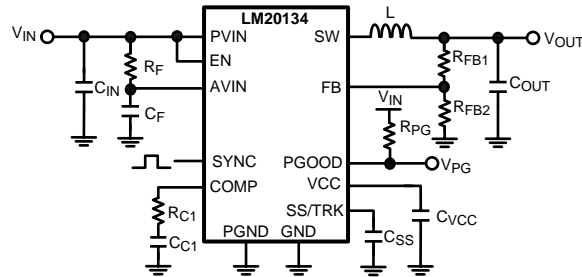

Figure 28. Typical Application Circuit
The LM20134 switching regulator features all of the functions necessary to implement an efficient low voltage buck regulator using a minimum number of external components. This easy to use regulator features two integrated switches and is capable of supplying up to 4A of continuous output current. The regulator utilizes peak current mode control with nonlinear slope compensation to optimize stability and transient response over the entire output voltage range. Peak current mode control also provides inherent line feed-forward, cycle-by-cycle current limiting and easy loop compensation. The internal oscillator can synchronize up to 1.5 MHz minimizing the inductor size while still achieving efficiencies up to 96%. The precision internal voltage reference allows the output to be set as low as 0.8V. Fault protection features include: current limiting, thermal shutdown, over voltage protection, and shutdown capability. The device is available in the HTSSOP 16-pin package featuring an exposed pad to aid thermal dissipation. The LM20134 can be used in numerous applications to efficiently step-down from a 5V or 3.3V bus. The typical application circuit for the LM20134 is shown in Figure 28 in the design guide.
This section walks the designer through the steps necessary to select the external components to build a fully functional power supply. As with any DC-DC converter numerous trade-offs are possible to optimize the design for efficiency, size, or performance. These will be taken into account and highlighted throughout this discussion. To facilitate component selection discussions the circuit shown in Figure 28 below may be used as a reference. Unless otherwise indicated all formulas assume units of amps (A) for current, farads (F) for capacitance, henries (H) for inductance and volts (V) for voltages.
To prevent high frequency noise spikes from disturbing the sensitive analog circuitry connected to the AVIN and AGND pins, a high frequency RC filter is required between PVIN and AVIN. These components are shown in Figure 28 as  $C_F$  and  $R_F$ . The required value for  $R_F$  is 1Ω.  $C_F$  must be used. Recommended value of  $C_F$  is 1.0 μF. The filter capacitor,  $C_F$  should be placed as close to the IC as possible with a direct connection from AVIN to AGND. A good quality X5R or X7R ceramic capacitor should be used for  $C_F$ .